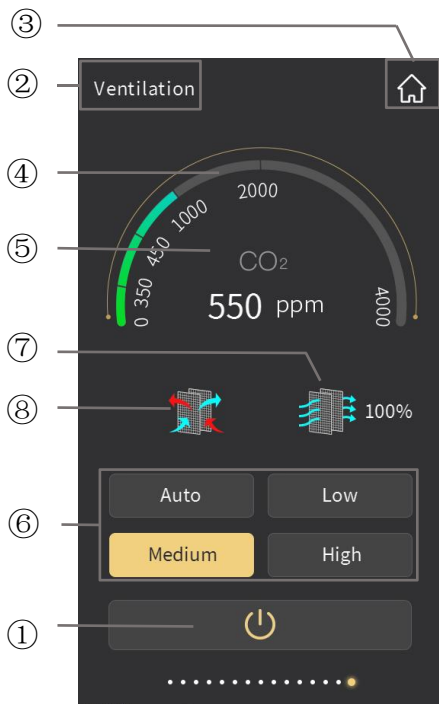
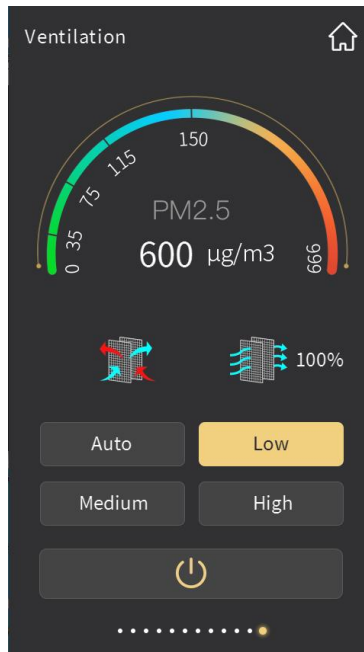
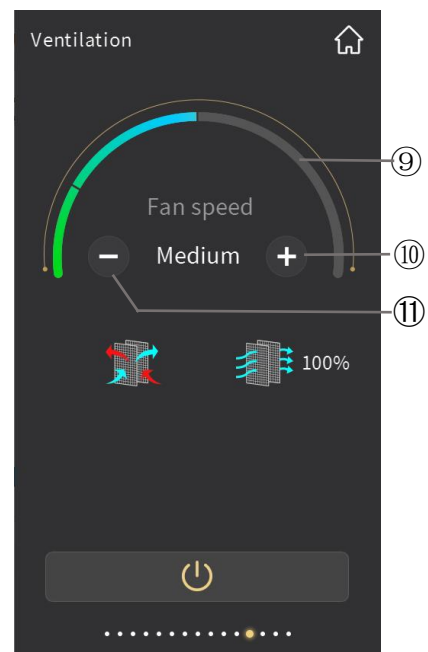

Fig.2.6.1
Fig.2.6.2
Fig.2.6.3
Only when auto fan speed control of ventilation system is enable would this interface display, as shown in Fig.2.6.1 and Fig.2.6.2.
CO2 concentration as shown in Fig.2.6.1, according to the value received from the bus, range 0~4000ppm; if the data exceed 4000ppm, then the interface will display 4000ppm.
PM2.5 concentration as shown in Fig.2.6.2, according to the value received from the bus, range 0~999ug/m3; if the data exceed 999ug/m3, then the interface will display 999ug/m3.
There is up to 4 options for fan speed mode: Auto, Low, Medium and High. When fan speed auto control is enable, auto fan speed adjustment will be displayed on the interface, shown as Fig.2.6.1 and Fig.2.6.2. Whether fan speed auto control is enable or not is configured through parameter configuration.
**⑦ This icon is the filter timer icon;**
Whether the filter timer counter function is enable or not is configured through parameter configuration. When disable, there will be no display of filter timer counter function on the interface as shown in Fig.2.6.1; when enable, icon⑦ will be colorful after ventilation system ON, the remaining evaluation value will be displayed next to it. The value will be updated according to the use time, which will be updated through the bus.
- ⑧ **This is the heat recovery icon, used to turn on or off heat recovery function;**
Whether heat recovery function of ventilation system is enable or not is configured through parameter configuration. When disable, there will be no display of heat recovery function on the interface as shown in Fig. 2.6.1; when enable, heat recovery function is turned on by default when ventilation system is ON, and the heat recovery function can be turned on or off by touching icon⑧. The icon on indicates that the heat recovery is on; the icon off indicates that the heat recovery is off. In addition, heat recovery function can be turned on or off through the bus. And there would be no responding after enable heat recovery function.
- ⑨ **This ring bar displays specific fan speed level;**
- ⑩ **To increase fan speed level by touching this icon ;**
- ⑪ **To decrease fan speed level by touching this icon.**
When fan speed is not configured as auto, as shown in Fig.2.6.3, by touching icon⑩ and icon⑪ to adjust fan speed; for each touch of icon⑩ and icon⑪ to adjust one level, there are 3 modes of fan speed: Low, Medium and High. At this time, the adjustment is manually, not automatically according to the concentration of CO2 or PM2.5.